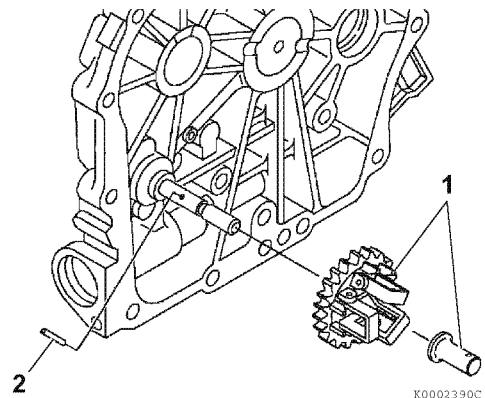

Figure 6-78
3. Install the drive pin (2, **Figure 6-78**). The pin must protrude evenly from either side of the shaft.
5. Install the oil pump/governor drive gear and spindle assembly (1, **Figure 6-78**) onto the oil pump shaft. Ensure the gear is fully seated and the drive pin engages the drive grooves in the gear.